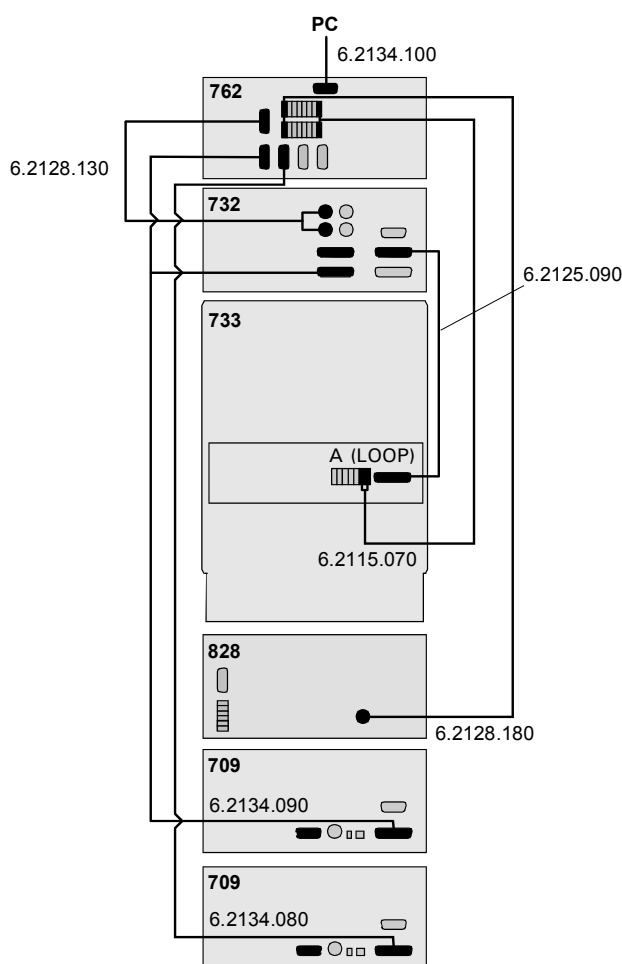

Figure 5: *Electrical connections in the MIC 10 system*
The electrical connections in the system consisting of the 762 IC Interface, 732 IC Detector, 733 IC Separation Center (1-channel), 828 IC Dual Suppressor and two 709 IC Pumps are shown in Figure 5:
The instrument symbols of your detector, the Separation Center and the two pumps will already appear in your "Gradient.smt" system. As the Dual Suppressor is controlled via the 762 IC Interface, see Figure 5, you only have to integrate and configure the interface in the existing system:
- The value of the event line, via which the Dual Suppressor will be controlled, must be set to 1. In this example this is Event Line 1, see Figure 5.